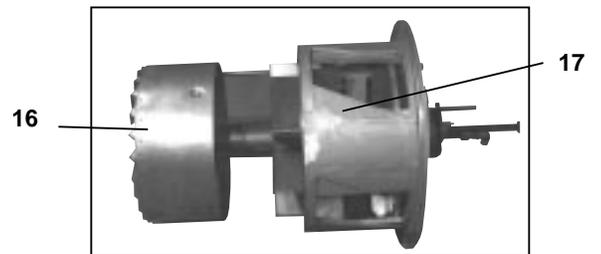

Figure: 2-9 Controls Common to All Boilers
4. Modulating Motor Transformer (Figure 2-9) (located in the mod motor): Reduces control circuit voltage (115 Vac) to required voltage (24Vac) for operation of the modulating motor.
5. Forced Draft Fan Motor Starter (Figure 2-9 & 2-10): Energizes forced draft fan (blower) motor.
6. Ignition Transformer (Figure 2-9): Provides high voltage spark for ignition of gas pilot or light oil pilot.
9. Manual-Automatic Switch (Figure 2-9): When set at “automatic,” subsequent operation is at the command of the modulating control, which governs the position of the modulating motor in accordance with load demand. When set at “manual,” the modulating motor, through the manual flame control, can be positioned at a desired burner firing rate. The primary purpose of the manual position is for testing and setting the air/fuel ratio through the entire firing range.
10. Manual Flame Control (Figure 2-9): A manually operated potentiometer that permits the positioning of the modulating motor to a desired burner firing rate when the manual-automatic switch is set on “manual“. It is used primarily for initial or subsequent setting of fuel input throughout the firing range. It has no control over the firing rate when the manual-automatic switch is set on “automatic.”
11. Burner Switch (Figure 2-9 & 2-10): A manually operated start-stop switch for directly starting and stopping operation of burner.
12. Flame Detector (Figure 2-9): Monitors gas or oil pilot and energizes the programmer flame relay in response to a flame signal. It continues to monitor main flame (oil or gas) after expiration of pilot providing period. A standard equipped boiler has a lead sulfide (infrared sensitive) detector.
13. Combustion Air Proving Switch (Figure 2-9): A pressure-sensitive switch actuated by air pressure from the forced draft fan. Its contacts close to prove presence
14. Alarm (Figure 2-9): Sounds to notify the operator of a condition requiring attention. The alarm is available as optional equipment.
15. Stack Thermometer (Figure 2-9): Indicates temperature of vented flue gases.
16. Diffuser (Figures 2-9): A circular plate, located at the furnace end of the burner drawer, that imparts a rotary swirling motion to combustion air immediately prior to its entering the flame, thus providing a thorough and efficient mixture with the fuel.
17. Rotary Air Damper (Figures 2-9): Provides accurate control of combustion air in proportion to fuel input for various load demands. It consists of two concentric cylinders with openings. The outer is stationary. The inner is rotated, under control of the modulating motor, to vary the effective size of the openings where they overlap.
19. Program Relay and Flame Safeguard Control (Figure 2-9): Automatically programs each starting, operating and shutdown period in conjunction with operating limit and interlock devices. Includes, in a timed and proper sequence, the operation of the blower motor, ignition system, fuel valve(s), and the damper motor. The sequence includes air purge periods prior to ignition and upon burner shutdown.